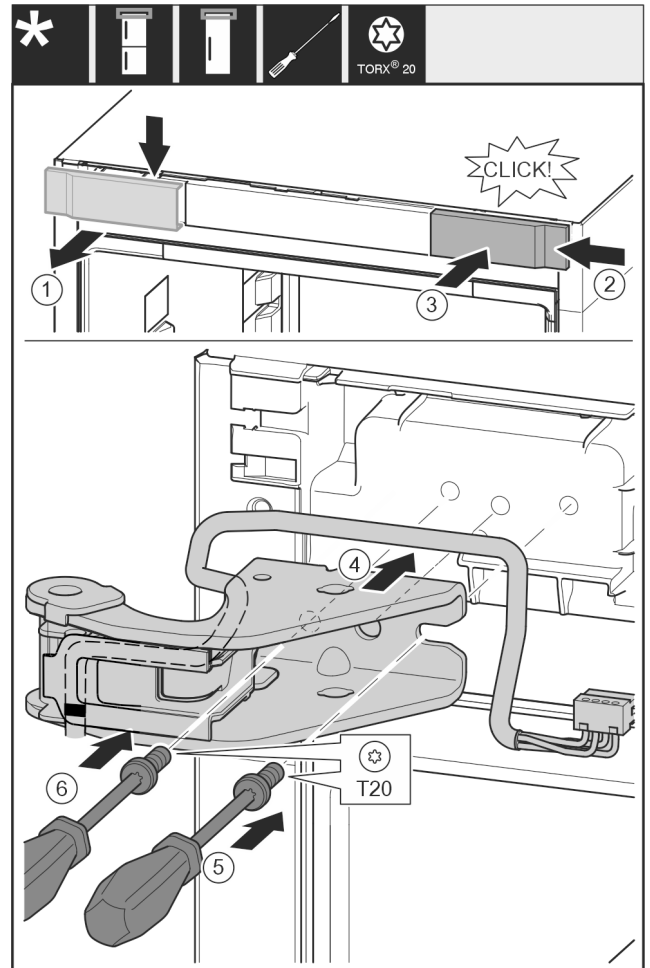

Fig. 33
- ▶ Remove the cover Fig. 33 (1) from above towards the front.
- ▶ Turn the cover Fig. 33 (2) by 180° and attach to the other side from the right.
- ▶ Engage the cover Fig. 33 (3)
- ▶ Place the top swap bearing block Fig. 33 (4).
- ▶ Use screwdriver Fig. 33 (5) to place the screw and tighten it.
- ▶ Use screwdriver Fig. 33 (6) to place the screw and tighten it.